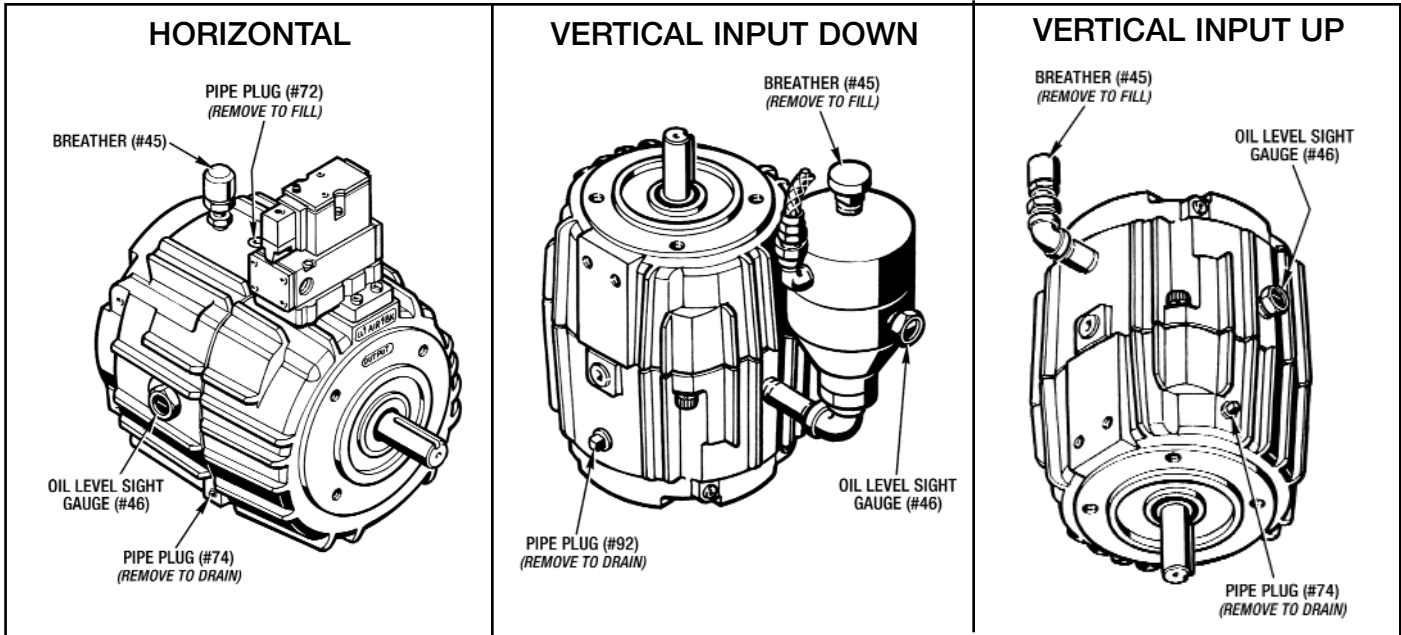

Figure 5 - Lubrication
A. CHECKING THE OIL LEVEL *(See Figure 5)*
B. CHANGING THE OIL *(See Figure 5)*